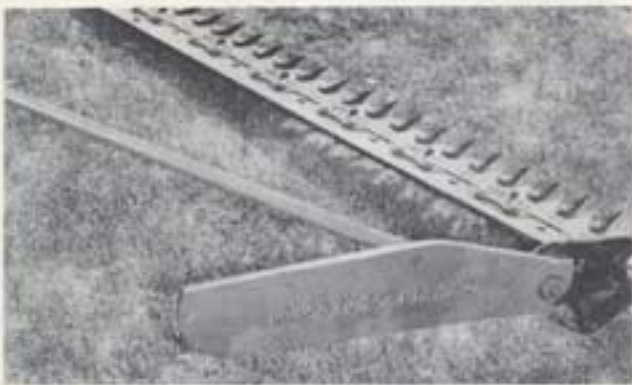

Fig. 61 Swathboard and Stick Assembled on Outer Shoe
19. When shipped, the outer shoe will already be attached to the cutter bar by means of cone nuts. Take the swathboard and attach it to the outer shoe, using the carriage head bolt, tension spring, plain washer and castellated nut as in Fig. 61. Tighten down on the nut until the swathboard cannot "droop" of its own weight, but can still spring outward if struck a light blow (on the inside of the board). Lock the castellated nut by means of a $\frac{3}{32}$ inch cotter pin.